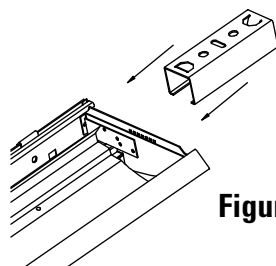

Figure 5
- A. Slide joiner bracket into the previously installed fixture. (Fig. 5)